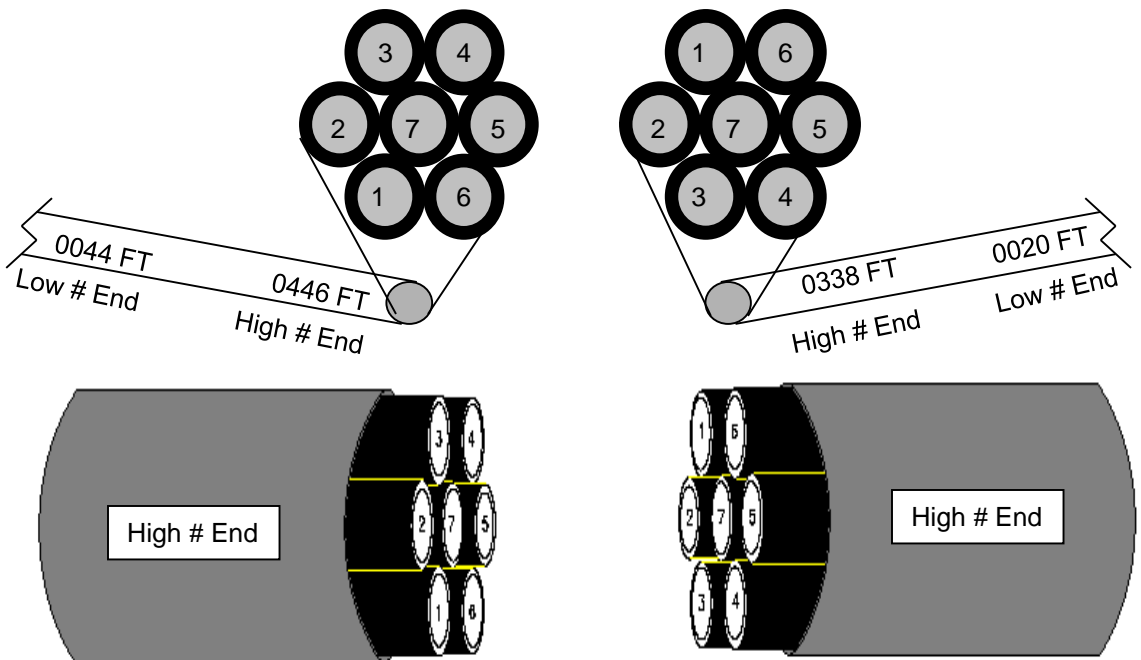

Figure 10
12.5 If the Low # End of one tube cable will mate to the Low # End of the other tube cable, when coupled, the tubes will be crossed or twisted and that condition is not desired. Same situation exists with a High # End mating to another High # End. (A Low-to-Low or High-to-High condition is bad.) **See Fig. 10.**